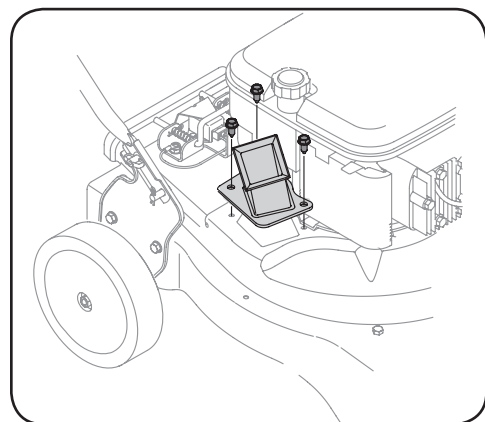

Figure 5-4
8. Remove the three hex cap screws holding the chipper chute to the upper housing. See Figure 5-4.